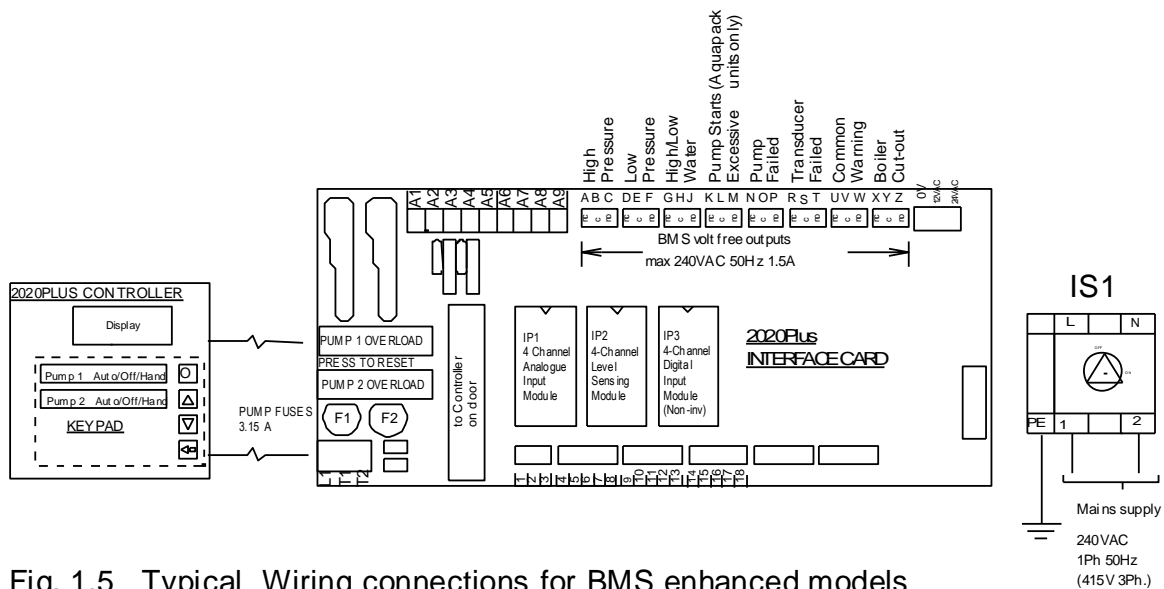

Fig. 1.5 Typical Wiring connections for BMS enhanced models
- 1.3.6.3 Connect incoming electrical mains supply to identified terminals in panel (see fig. 1.5). Ensure voltages and frequency indicated on the motor nameplates and wiring diagrams correspond with supply mains data and that the supply fuse ratings are correct for the total current rating of the equipment. Note: some units require a 3 Phase supply for larger applications. Refer to wiring diagram supplied with the unit or contact AquaTech-Pressmain.